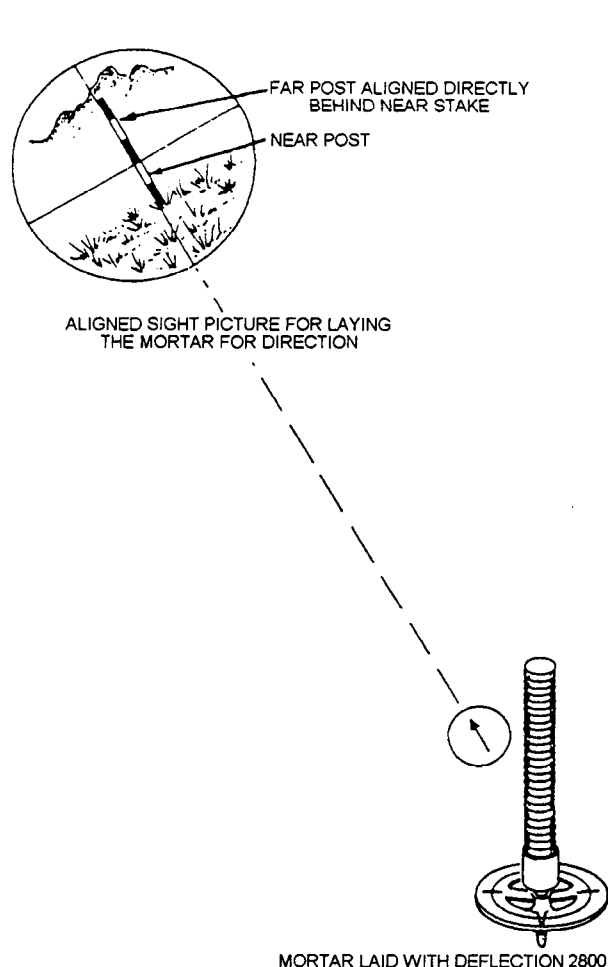
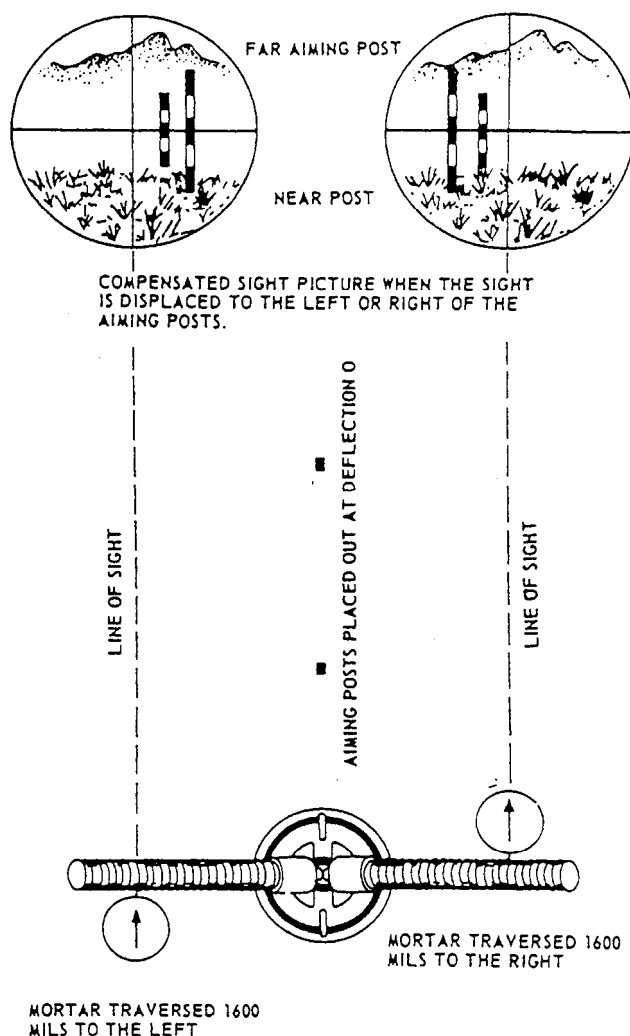

Figure 14-16.—Aligned sight picture.
Figure 14-17.—Compensated sight picture.
the **ALIGNED** sight picture (fig. 14-16). If the two aiming posts do not appear as one, displacement of the sight or the baseplate has occurred. This separation is caused by one or two things: either (1) a large deflection shift that moves the entire sight out of the plane passing through the aiming posts; or (2) a lateral (left or right) displacement of the baseplate caused by the shock of firing, which also moves the sight out of the plane of the aiming post. When both the far post and the near post are visible, it is called a **COMPENSATED** sight picture (fig. 14-17).
The gunner can only have one of two sight pictures when the mortar is fired: either the **ALIGNED** sight picture or the **COMPENSATED** sight picture. To use the aligned sight picture correctly, the gunner must lay the vertical line of the sight reticle, so it just touches the left side of the visible aiming post (fig. 14-16).
To use the compensated sight picture correctly, the gunner must lay the vertical line of the sight reticle, so the left edge of the far aiming post is placed exactly midway between the left edge of the near aiming post and the vertical line of the sight reticle. This corrects for displacement of the sight (fig. 14-17).